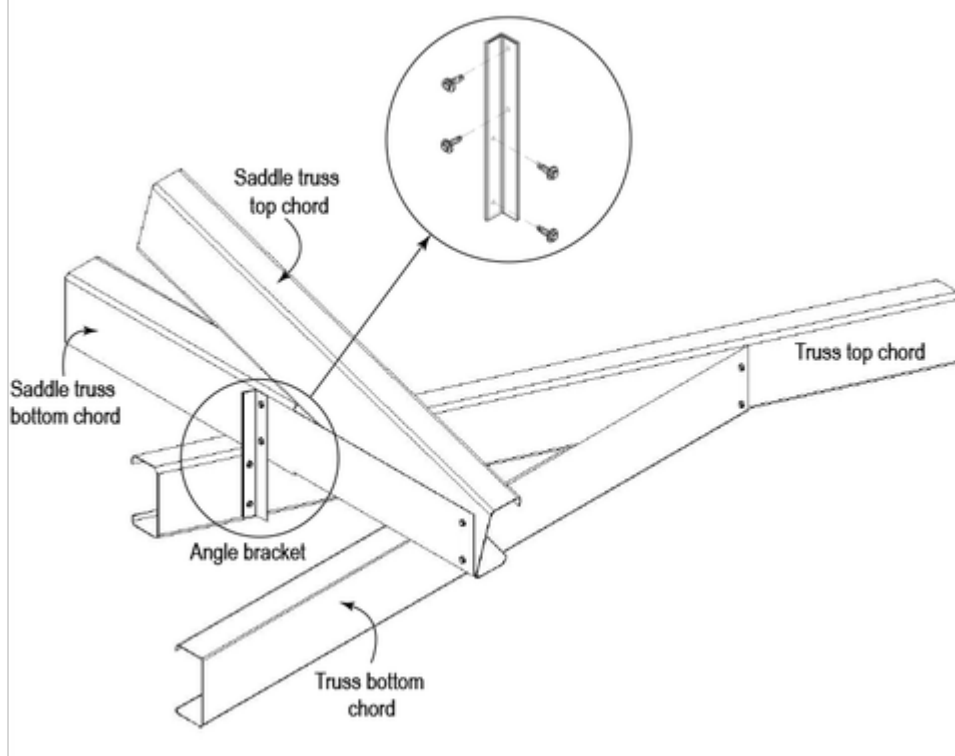

Figure 7.64: Saddle truss connection
Step 5: Fix the bottom chord of the saddle trusses to the top chord of the underlying truss with an angle bracket as shown in **Figure 7.64**.